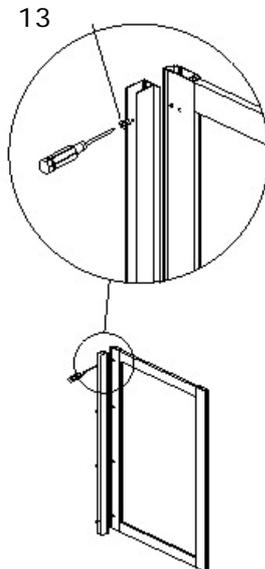

Figure 4
4. Use the ST4x16 screws (18) to connect the connection profile (19) with the side panel (20), not on the wall side, as shown in figure 4.